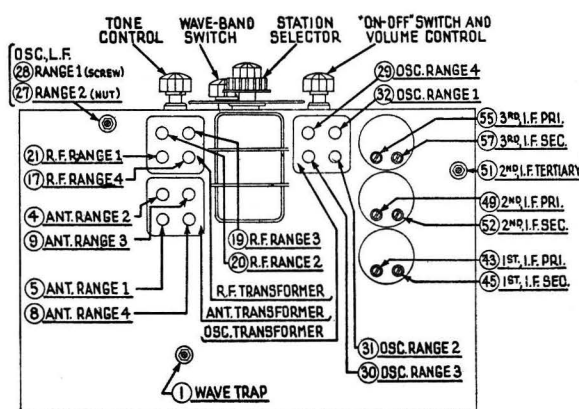

Fig. 4—Locations of Compensating Condensers
4. Using the Philco fibre adjusting screw driver, part No. 27-7059, adjust the I. F. compensating condensers in the following order to give maximum reading in the output meter: ②, ⑤, ⑥, ④, ①, ③, ⑦. (Fig. 4).